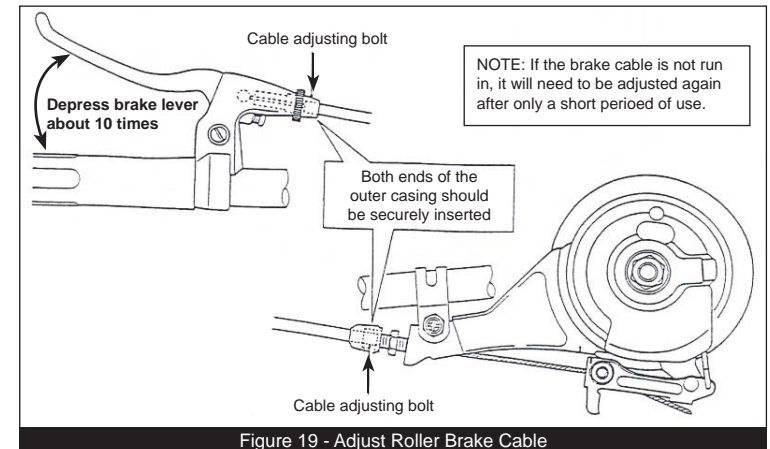

Figure 19 - Adjust Roller Brake Cable
1) check that the wheel does not easily turn while the brake cable is being pulled; 2) depress the brake lever about 10 times as far as the grip in order to run in the brake cable; 3) check that both ends of the outer casing are securely inserted into the cable adjusting bolts of both the brake lever and brake arm. See **Figure 19**.